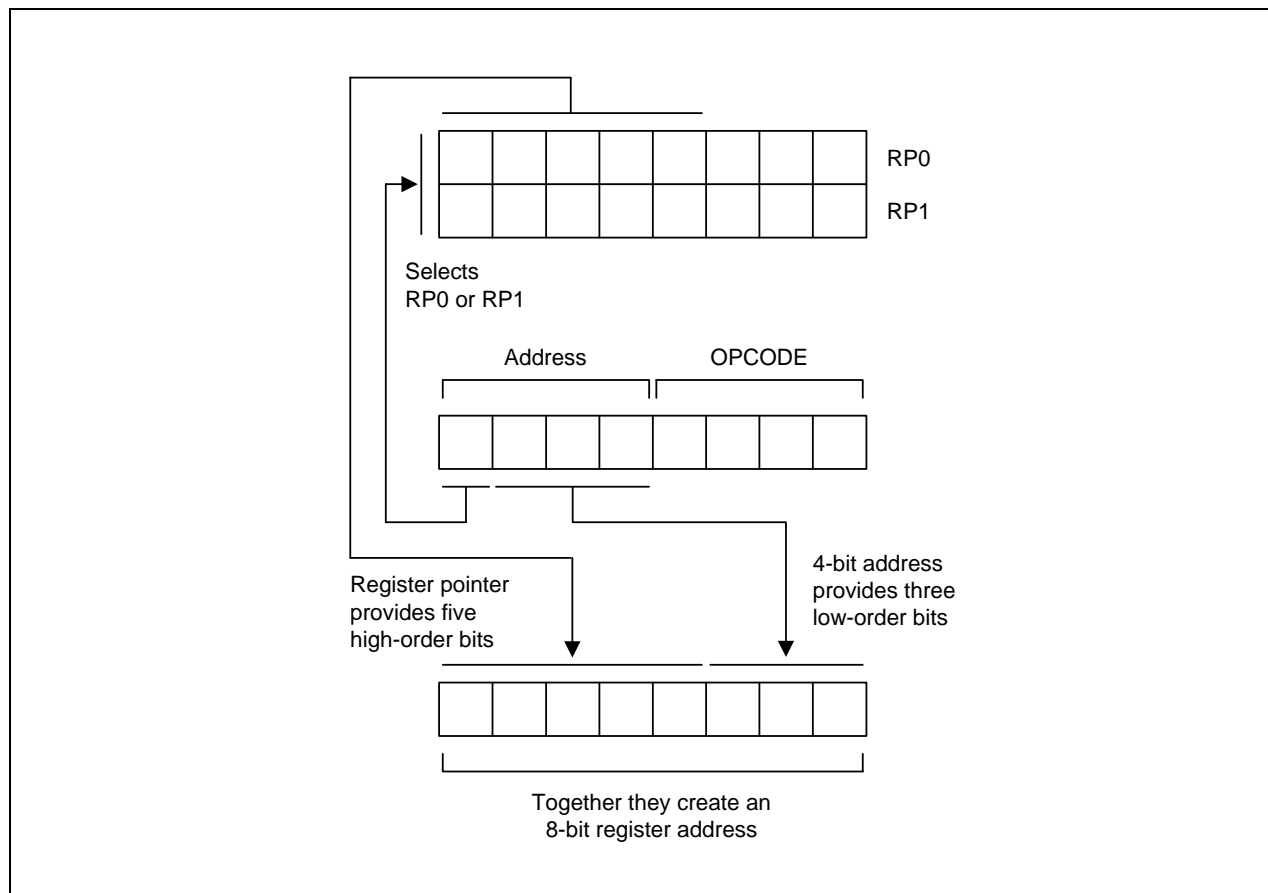

Figure 2-11. 4-Bit Working Register Addressing
- As shown in Figure 2-11, the result of this operation is that the five high-order bits from the register pointer are concatenated with the three low-order bits from the instruction address to form the complete address. As long as the address stored in the register pointer remains unchanged, the three bits from the address will always point to an address in the same 8-byte register slice.